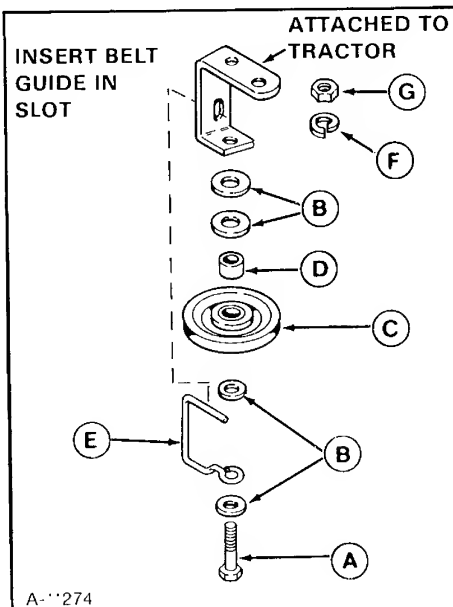

Figure 24.
11. Refer to figure 24 to reinstall the middle idler pulley. Position flat side of belt against the pulley, position the belt guide (E, figure 24) and hardware, and install as shown. Make sure pulley can rotate freely after installation.